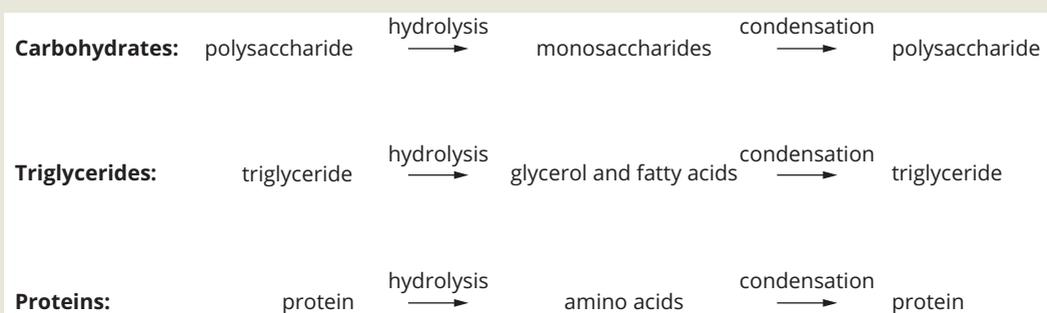

FIGURE 12.3.12 Summary of the metabolism of the major nutrients obtained from food
- Figure 12.3.12 below summarises the breakdown and synthesis reactions for the key nutrient families of carbohydrates, triglycerides and proteins.